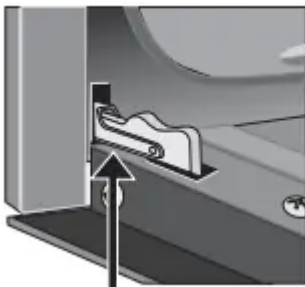

Figure 36: Door hinge locks
2. Pull up the lock located on each hinge support toward front of the oven until the lock stops. You may have to apply a little upward pressure on the lock to pull it up (Figure 36 and Figure 37).
4. Push the door hinge locks up toward and into the oven frame on both left and right oven door hinges to the locked position (Figure 36).